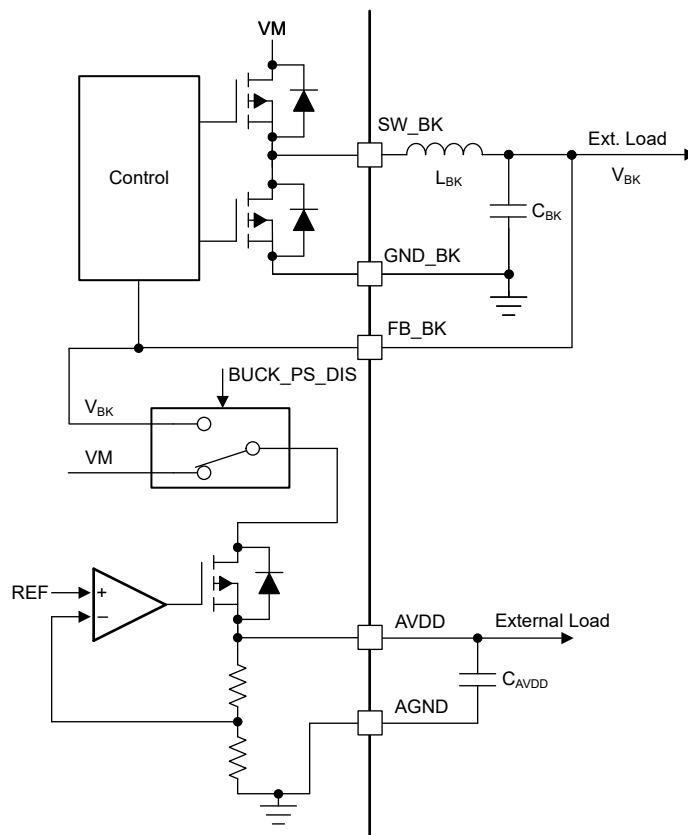

图 8-12. AVDD Power Sequencing on mixed mode Buck Regulator
The AVDD LDO has an option of using the power supply from mixed mode buck regulator to reduce power dissipation internally. The power sequencing mode allows on-the-fly changeover of LDO power supply from DC mains (VM) to buck output (VBK) as shown in 图 8-12. This sequencing can be configured through the BUCK_PS_DIS bit . Power sequencing is supported only when buck output voltage is set to 5.0 V or 5.7 V.